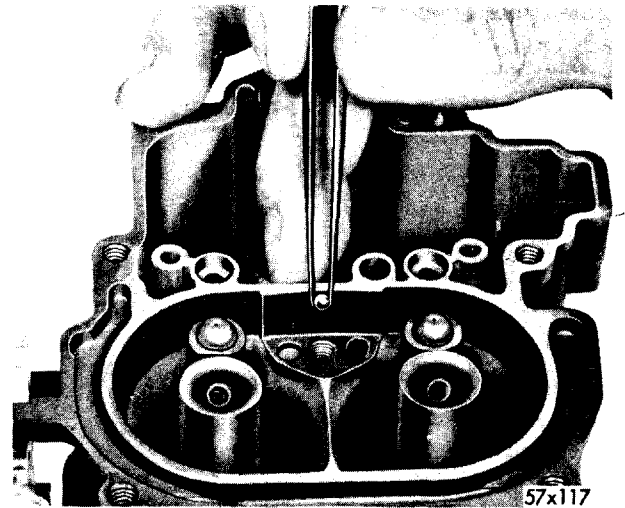

Fig. 17—Installing Discharge Check Ball
(7) Install the accelerator pump discharge check ball ($\frac{1}{8}$ inch diameter) in the orifice in the center passage of the discharge strut section of the main body, as shown in Figure 17.